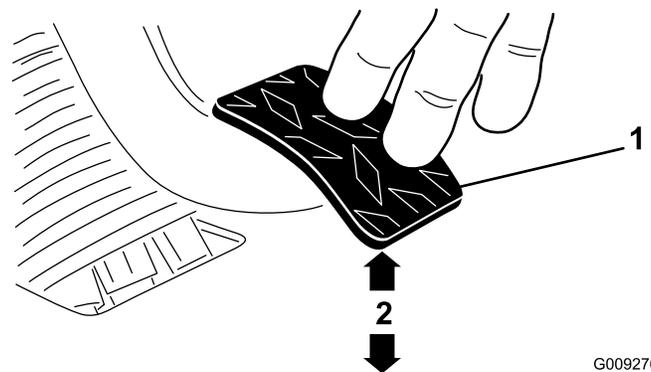

Figure 59
3. Adjust the jam nuts or ball joint until the back, rear edge of the clutch pedal is 9.5 ± 0.3 cm (3.75 ± 0.12 inch) from the top of the floor plate diamond pattern, when an 1.8 kg (4 lb) force is applied to the pedal (Figure 59).